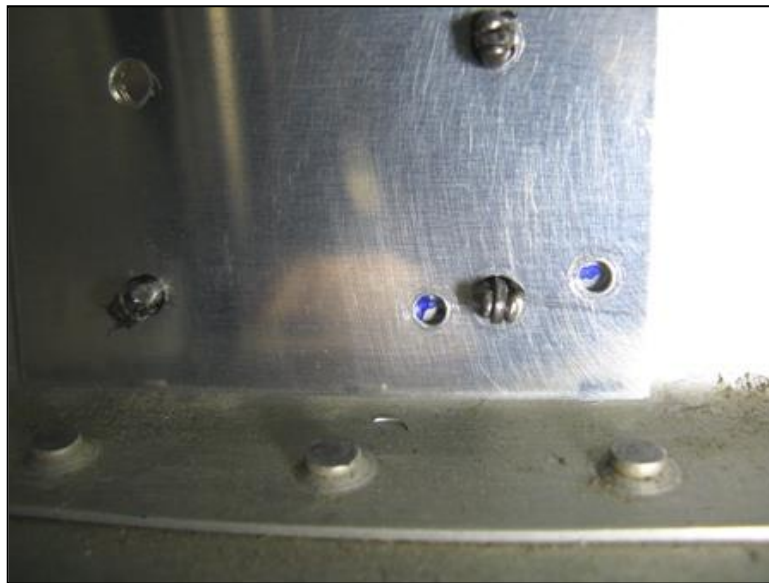

FIGURE 8: CHECK MARKS THROUGH GUIDE HOLES
Step 13: Cleco the drill guide into place on the rear spar. Check that the marked locations on the spar are visible in the stop-drill guide holes as shown in Figure 8. If the holes are not properly aligned, remove the drill guide and use it as a template to make a replacement drill guide with repositioned stop-drill guide holes.